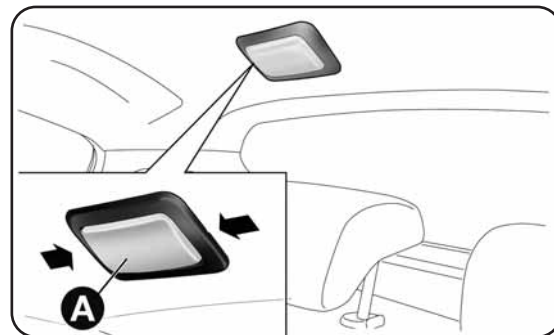
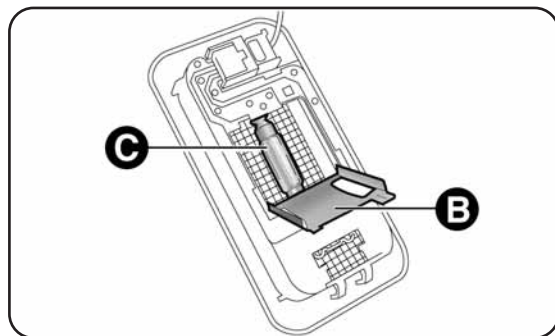

fig. 143
fig. 144
- remove courtesy light A-fig. 143 by applying leverage at the points shown by the arrows;
- open flap B-fig. 144, replace bulb C, releasing it from the side contacts. Make sure that the new bulbs are correctly secured between the contacts;
- close flap B-fig. 144 and secure courtesy light A-fig. 143 in its housing.